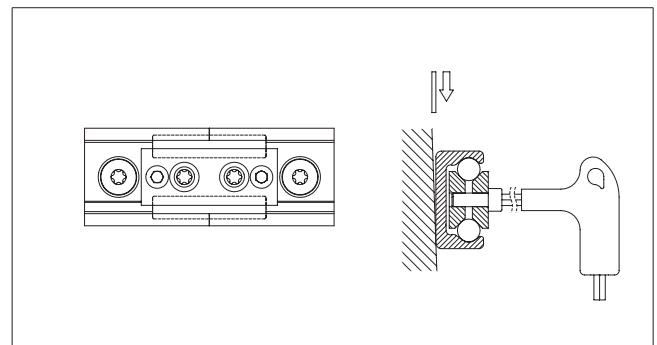

Fig.88
- (3) Place the alignment fixture on the rail joint and tighten both set screws uniformly, until the raceways are aligned (see Fig.88).
- (4) After the previous step (3), check if both rail backs lie evenly on the mounting surface. If a gap has formed this must be shimmed.